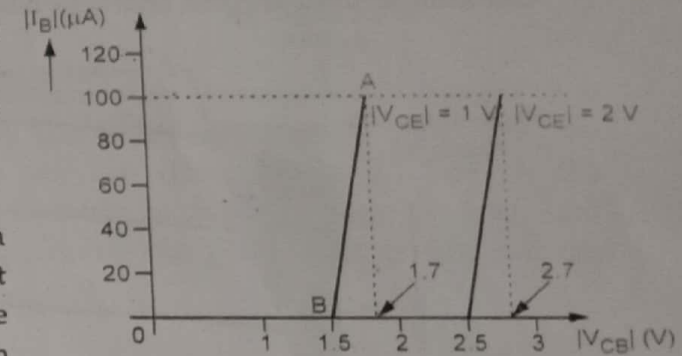

Fig. Q.35.1 Input characteristics of transistor in CC configuration
- Fig. Q.35.1 shows the input characteristics of a typical transistor in common-collector configuration.
- Looking at Fig. Q.35.1 we can write,